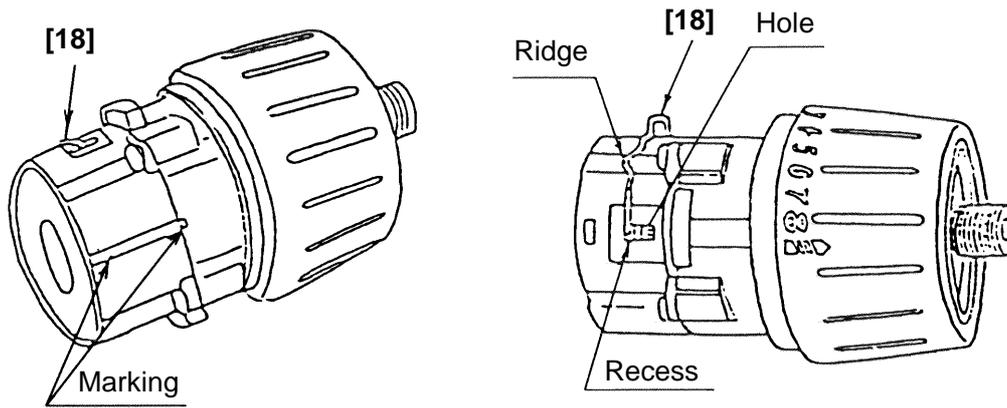

Fig. 11
(ii) Install the Front Case [11] and the Rear Case [17] together with the marking on the Front Case [11] aligned with the marking on the Rear Case [17]. (See Fig.11.)
- (i) With the ridge at the Shift Arm [18] set on the Motor [27] side, first install them on the unmarked side of the assembly reassembled in step (b). Then insert the projection on the Shift Arm [18] into the hole in the Rear Case [17] and make sure that the projection is fitted into the recess in the Slide Ring Gear [19] mounted within the Rear Case [17]. (See Fig. 11.)